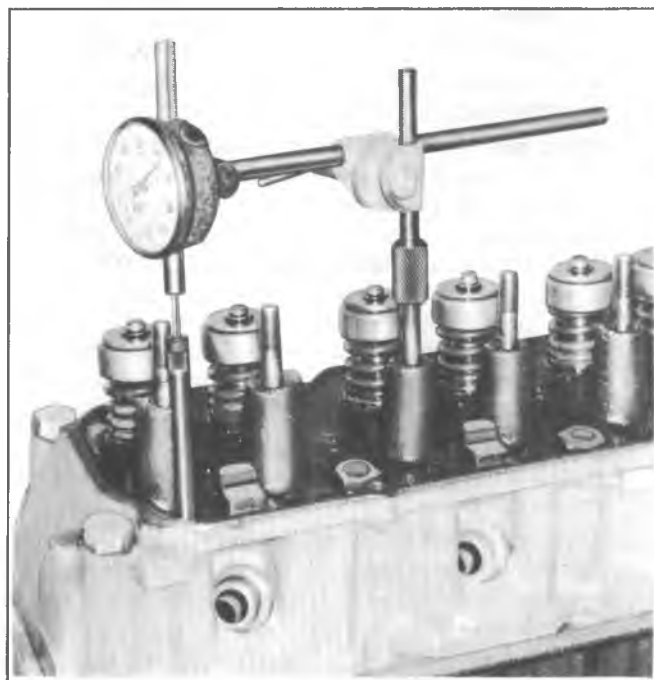

Fig. 6A1-23--Measuring Camshaft Lobe Lift
2. Position indicator with ball socket adapter (Tool J-8520) on push rod (fig. 6A1-23).